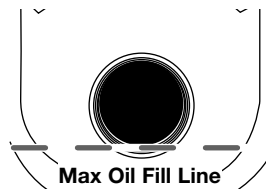

Fig. 23
5. Look into the oil fill hole, use a flashlight if needed. The oil should be just touching the innermost thread (Fig. 23).
6. If the oil level is not touching the innermost thread on the oil fill hole, add a small amount of oil to the oil fill hole and recheck (Fig. 23). Repeat this procedure until the oil level reaches the innermost thread on the oil fill hole.